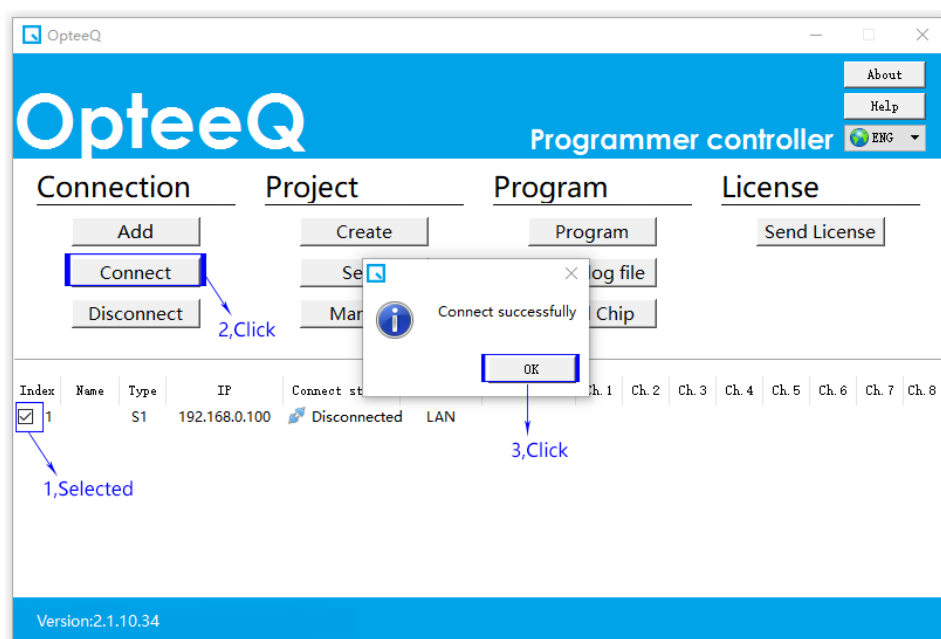

Figure 4.9: Programmer Connection
1) When the programmer is connected to a PC via the network cable, please make sure that the steps in Chapter 4.3 and 4.4.1 have been completed, namely the "Programmer Addition (Network Interface)" and "IP Address Setting for the Computer Network". Then, check the programmer under the corresponding serial number in the main interface of the programmer software before "Programmer Connection". Finally, click "Connect Programmer", as shown in Figure 4.9.